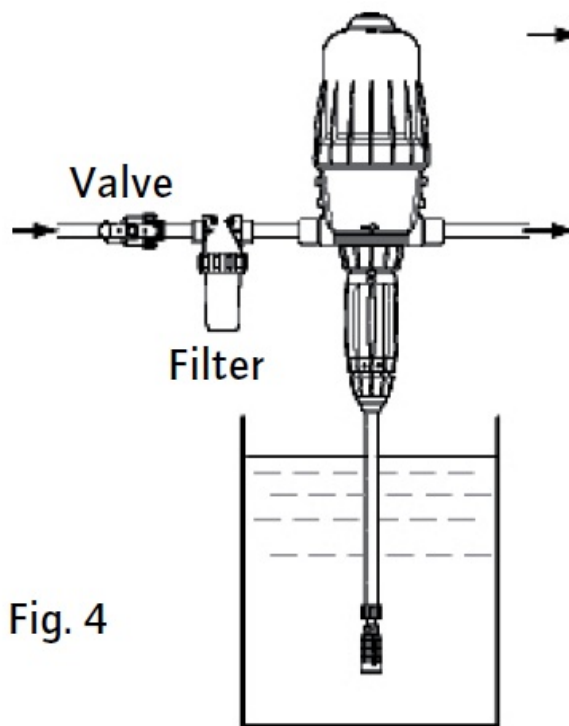
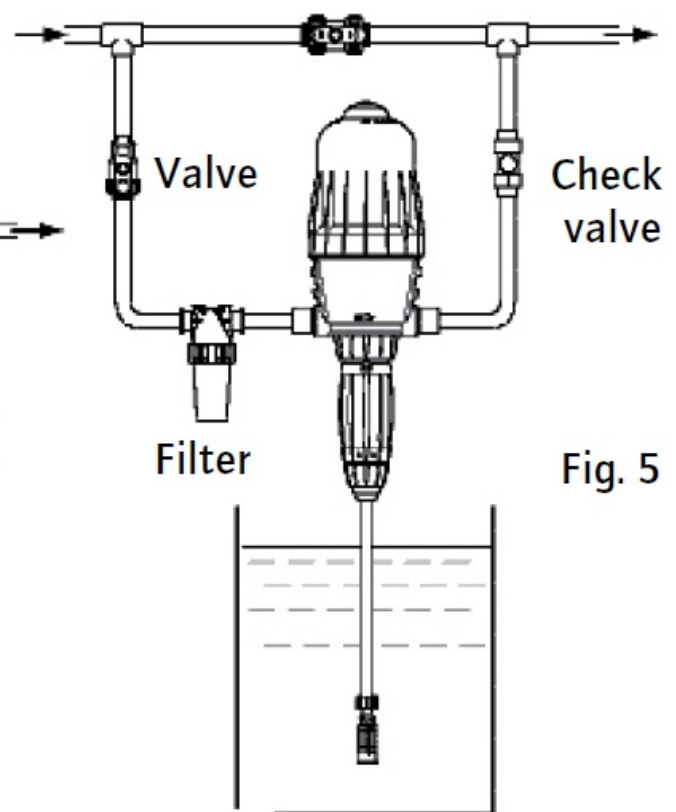

Fig. 4
Fig. 5
- The DOSATRON can be connected to the main water line directly (Fig. 4) ; on a by-pass (Fig. 5), recommended. If your flow rate is above the operating limits of the DOSATRON, see EXCESSIVE FLOW.